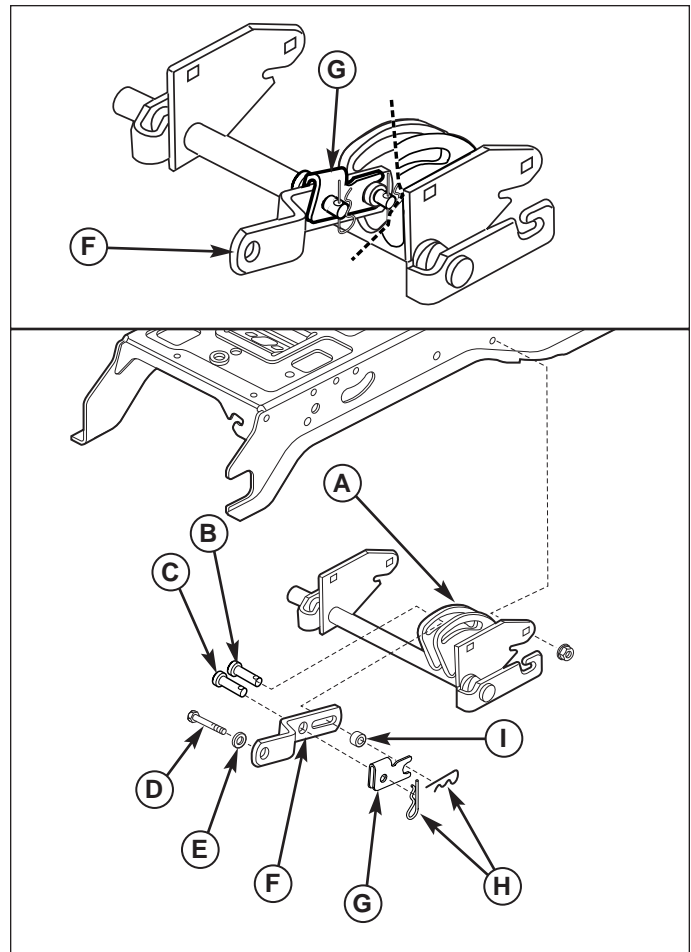

Figure 4. Install Lock Plate - Manual Lift Models
1. Rest the back of the lock plate (G, Figure 4) against the spacer (I) and rotate until it lines up with the hole in the lift bar (F).
2. Secure the lock plate (G) to the lift bar (F) using a flat head pin (C) and hair pin clip (H).